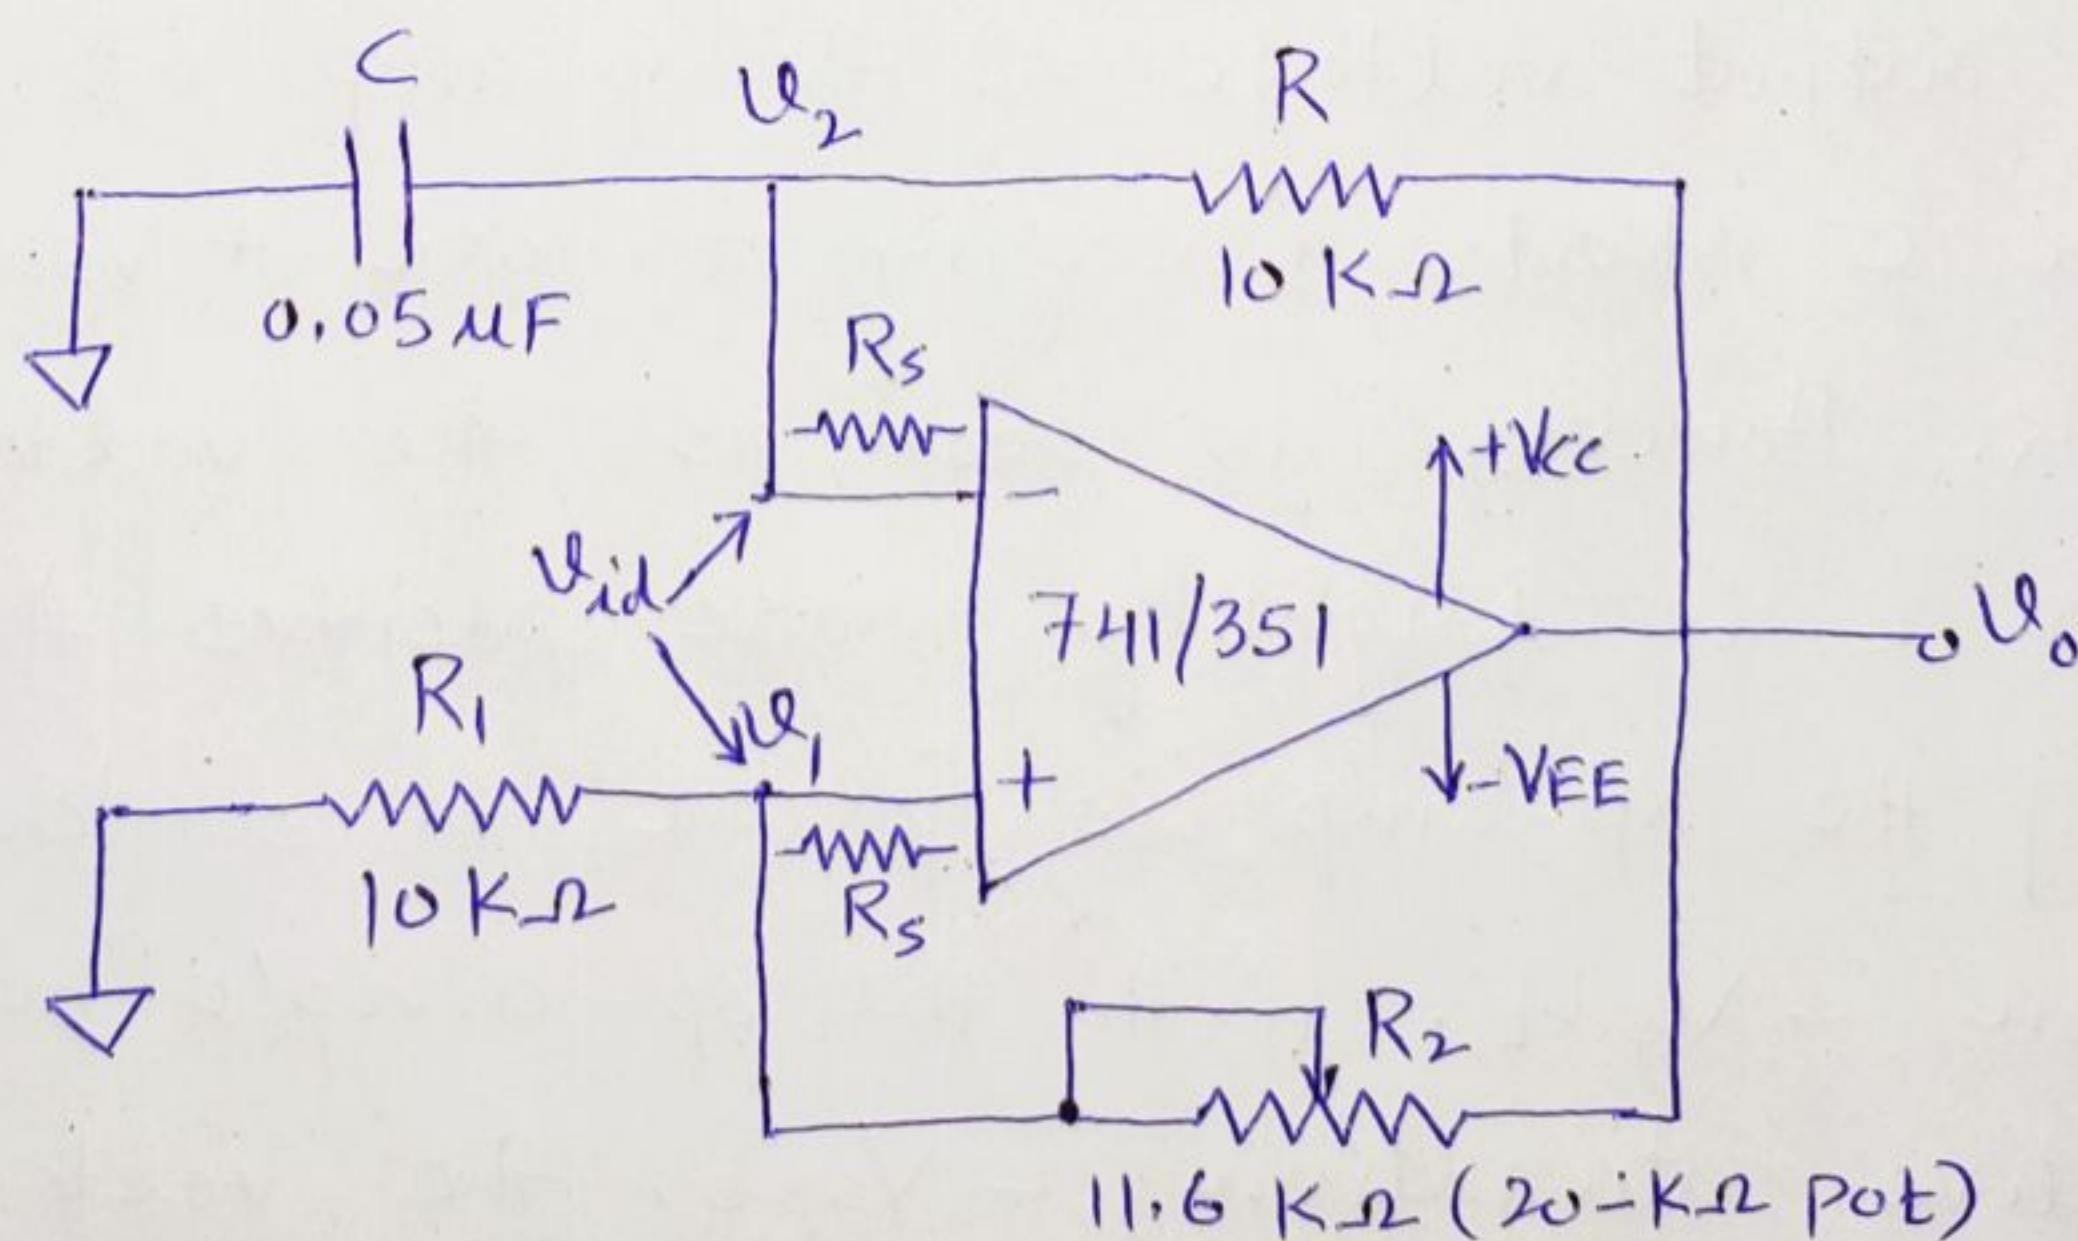

Figure 4. Square wave generator.
In contrast to sine wave oscillator, square wave outputs are generated when the op-amp is forced to operate in the saturated region. That is, the output of the op-amp is forced to swing repetitively between positive saturation $+V_{sat} (\cong +V_{CC})$ and negative saturation $-V_{sat} (\cong -V_{EE})$, resulting in the square-wave output. The circuit of square-wave generator is shown in Figure 4. This square-wave generator is also called a free-running or astable multivibrator.
Q. Design the square-wave oscillator of Figure 4 so that $f_o = 1\text{ KHz}$. The op-amp is a 741 with dc supply voltages $= \pm 15\text{ V}$.